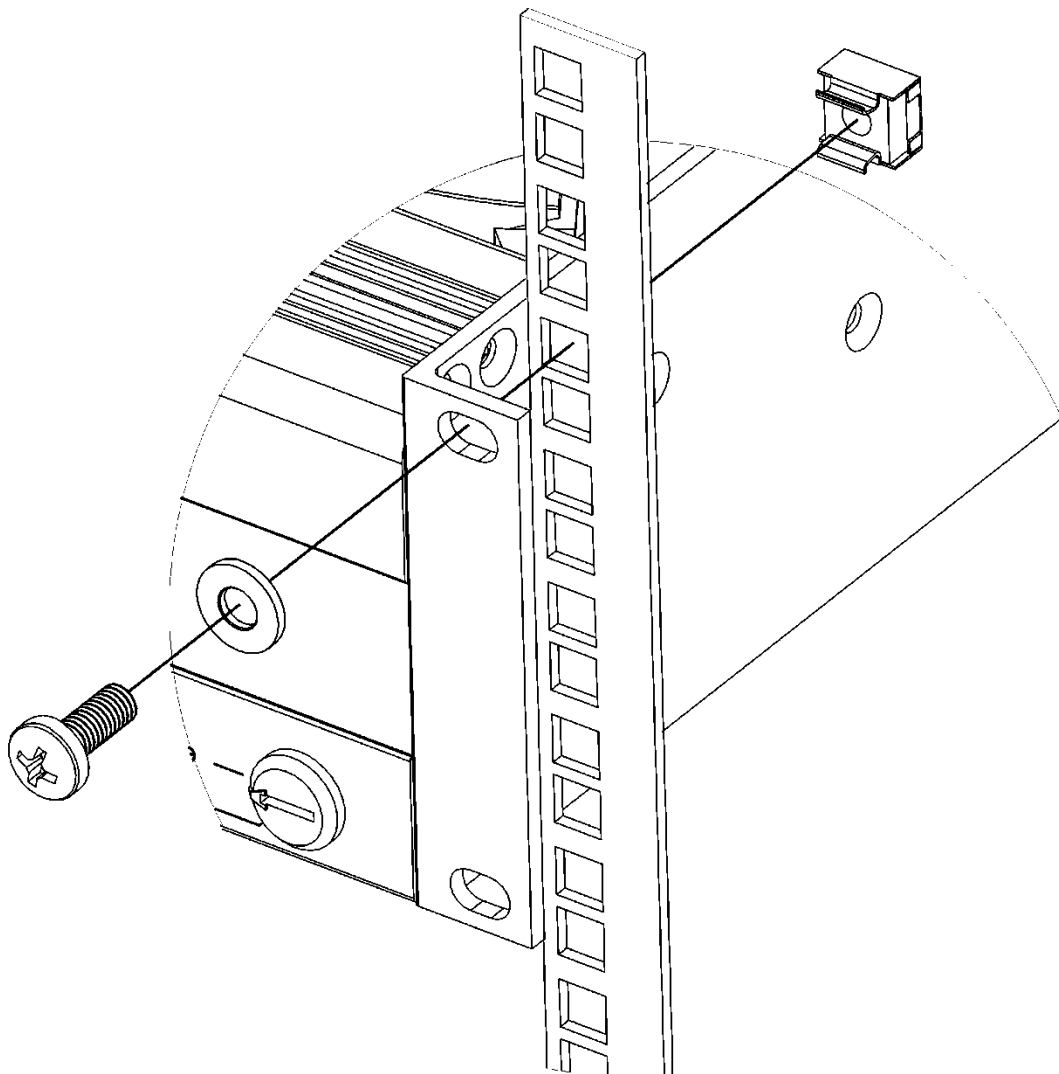

Figure 12: Attaching the 19-inch System Fan
3. Fasten the system fan to all four oblong holes, see Figure 12 below.